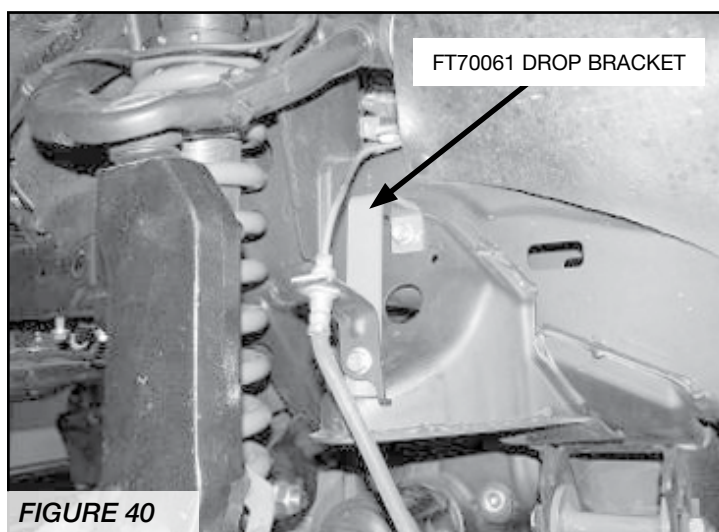

FIGURE 40
30. Locate the factory brake line tab next to upper control arm. Unbolt the bracket from the frame save hardware and bracket. You will need to carefully pull the hard brake line down 4". Locate FT70061 brake line drop bracket and attach the bracket to the frame with the factory hardware in the upside down J formation. Attach factory bracket to the new bracket using the supplied $\frac{5}{16}$ " x 1" bolt, nut, and washers. **SEE FIGURE 40**